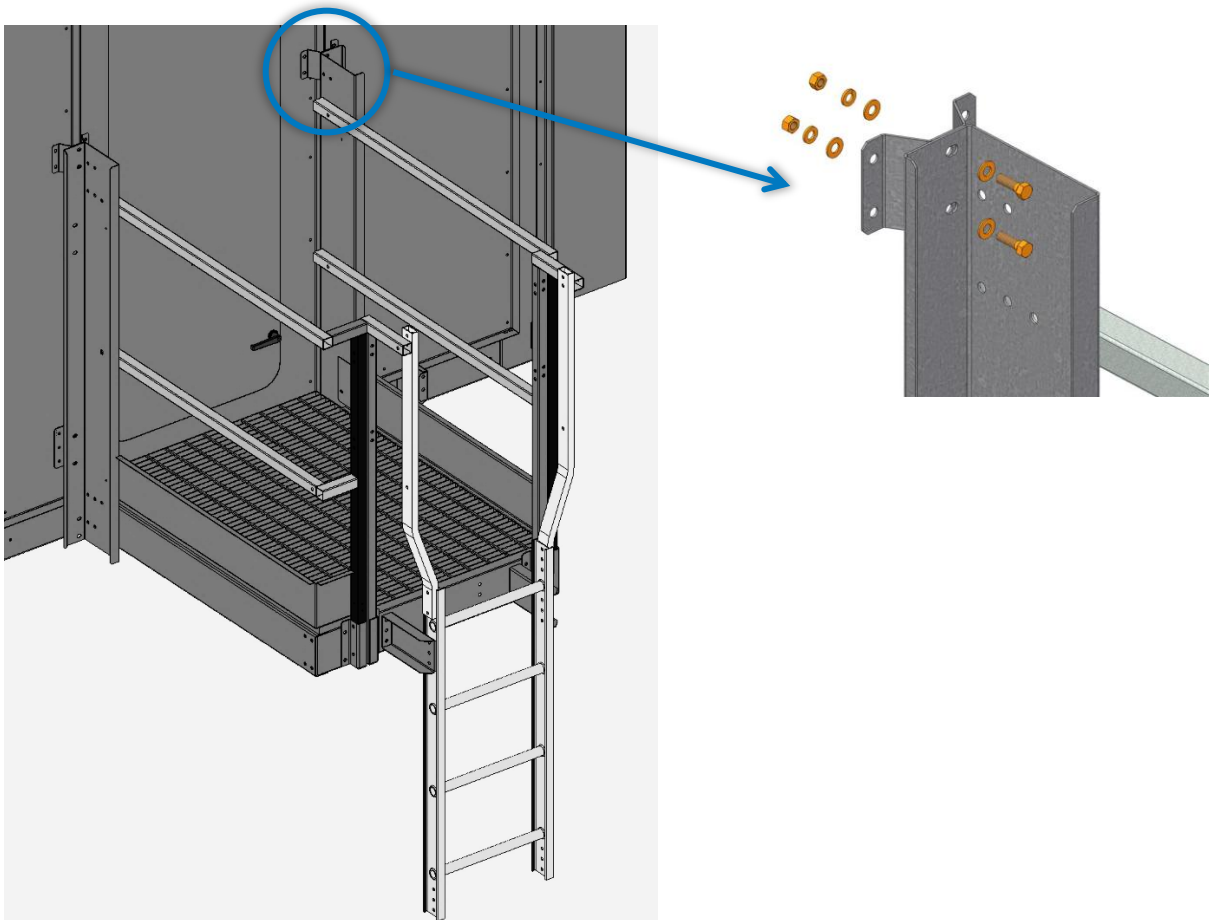

**Figure 40.** External Platform Ladder Installation
An image of an installed external platform ladder is shown in **Figure 40**.
2. Install the external platform ladder as shown in **Figure 40**. The ladder can be installed on either side of platform. See submittal for details regarding external platform ladder installation location.